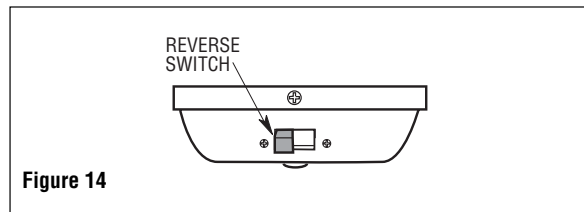

Figure 14
- All fans are shipped from the factory with the reversing switch positioned to circulate air downward. If airflow is desired in opposite direction, turn your fan off and wait for the blades to stop turning, then slide the reversing switch to the opposite position, and turn fan on again (Figure 14).